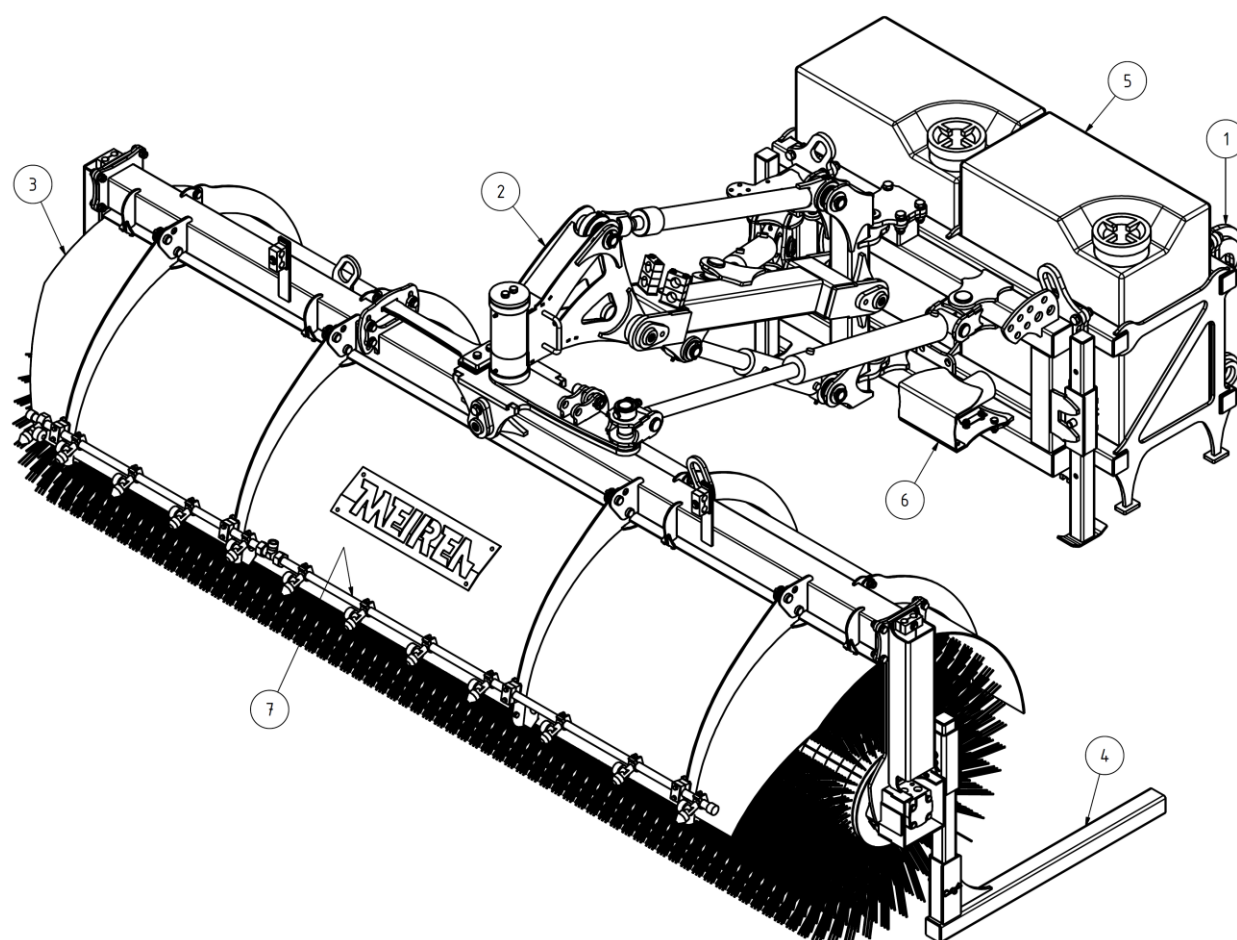

Figure 1 – Rotary broom HT
The rotary broom HT (Figure 1) has the mounting plate according to the vehicle (1, Figure 1), parallelogram (2), fore part of the brush (3) and support legs (4). As an extra, broom can be equipped with water reservoirs (5), an electrical water pump (6) and nozzle system (7).